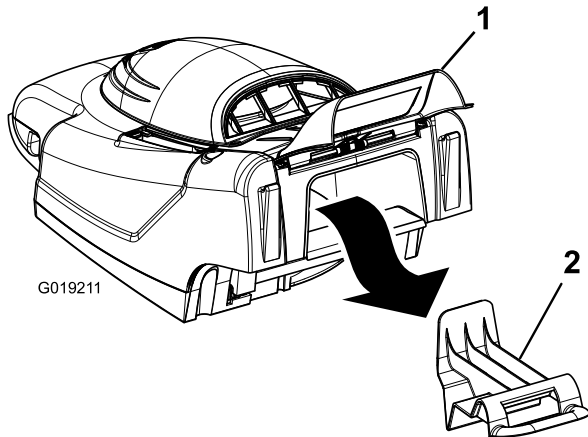

Figure 14
1. Lift the rear door and remove the mulch plug (Figure 14).